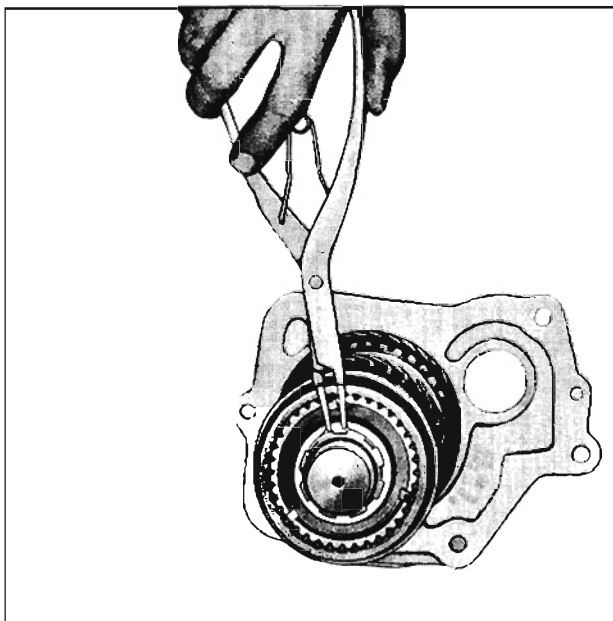

Fig. 7-212 Removing Mainshaft Front Snap Ring
15. Remove mainshaft front snap ring as shown in Fig. 7-212 and slide third and fourth-speed clutch assembly, third-speed gear and synchronizing ring from front of mainshaft.